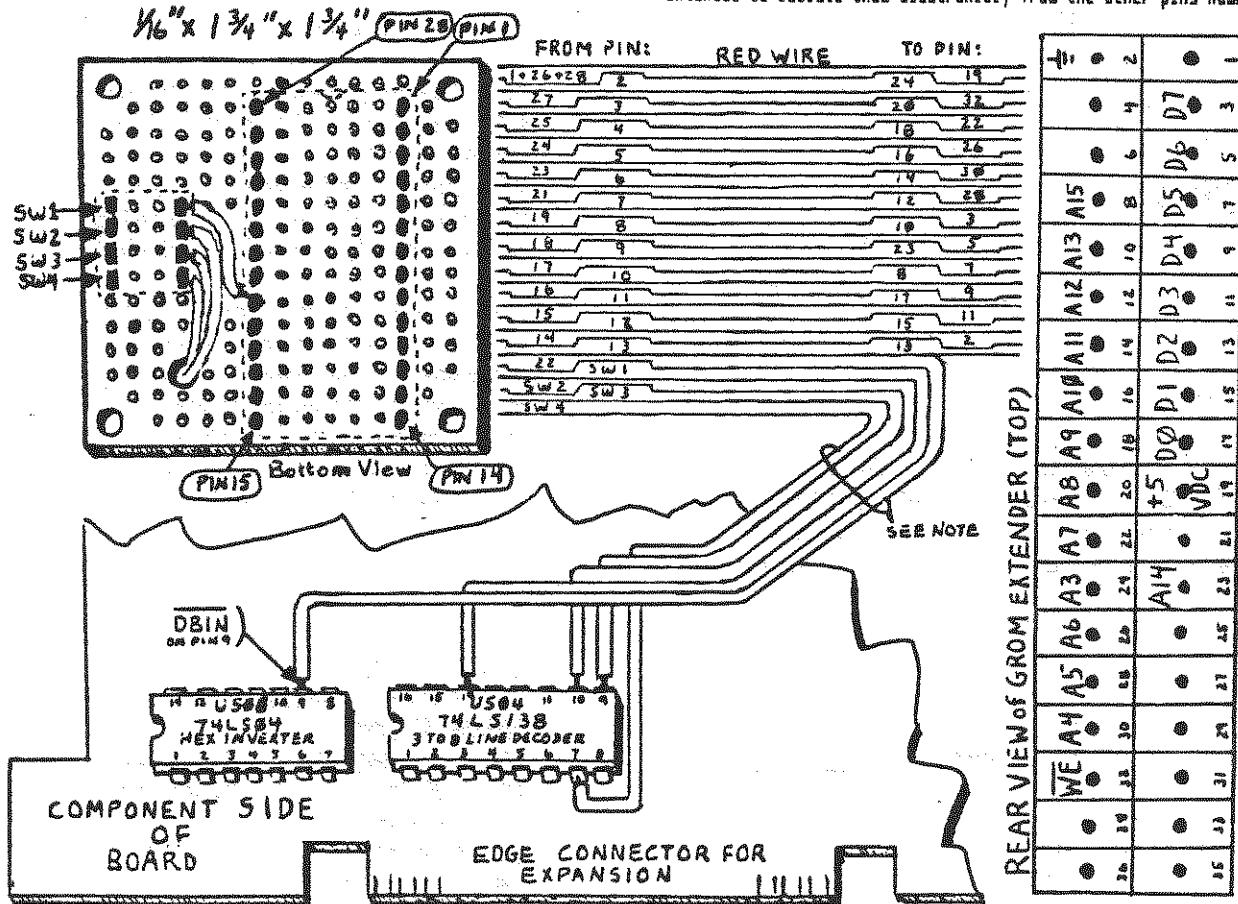

FIG. 2
First please take note of the location of parts by using the above two drawings. The major component in the expansion is the circuit card. The card's bottom view (shown in upper left FIG.2), has copper lands (small donut shaped eyelets) around each hole. This will provide for better soldering of wires, and components to the board. The circuit card actually is 1/2 of a board which comes from RADIO SHACK, to be used as either a half, or a whole. How convenient, two for the price of one (see parts list). You may use the placement of components, as I did or you may choose not to use the switch pack, in which case all of the board that is not directly under the chip socket, may be clipped away easily using small side cutters. You will see later that if this course is chosen, that you can even mount the assembly directly behind the GROM connector, making a very tidy and secure module.
The use of ribbon cable was my choice here, but any multi-strand wire with a gauge no smaller than say 26 could be used. The connector shown in FIG.2 extreme right side, is the rear view of the GROM connector, with the black dot seen in the center of each rectangle, representing the 1/8" long pin extending through the verticle connector card, and to which you will be soldering your completed assembly.
1) Place the console bottom up, with the keyboard toward your stomach. Remove the (7) Phillips head screws. If this is the black and silver console, you must now remove the ON/OFF switch knob, by simply pulling it toward you. Now lift the bottom cover up and set aside.
2) On the left, front side you will see a circuit card (approx. 4 1/4" x 4 1/4") which is the power supply, and can be removed by removing (2) Phillips head screws on it's right side. Lift the card noting: the AC (18vac) cable coming to it from the rear of the console, the DC cable (carrying DC voltages to the CPU board) and noting that there are basically two kinds of cables, one that connects via a (4) pin Molex connector directly to the power supply board, and the other that has a mid-line connector which is keyed for reassembly. Be sure that in the first case you squeeze the locking latch on the connector to remove the cable (so as not to damage the connector. Set the power supply aside.
3) Remove the (3) Philips head screws, (2) around the outer perimeter of the console board, and (1) to the rear of the board, but seen down in a recessed area of the board through a hole about an inch from the rear edge. DO NOT REMOVE any screws with nuts on the other side at this point! Now remove the (4) screws that hold the keyboard in place, 2 at either end. Lift the console board up carefully, until it is high enough to disconnect the cable to the keyboard, and do so. Now place the top cover with the keyboard still lying in it aside.
4) Turn over the shielded console board to expose the GROM connector. Lift the GROM Connector Assy. out of it's slot and examine it as you carefully note FIG.2. Before we forget, remove and discard the Snap-on connector cover with the felt wiper assy.. This is the device that causes most of those system freezes under extended Basic that have plagued you. Clean the inside of the connector with alcohol on a piece of clean cloth stretched on a piece of thick paper inserted into the connector.
NOTE: In FIG.2 the note reference is that you may find it wise to put the optional connector (parts in list), to make it easier to remove this module in case problems do occur for you. You will not have to remove the shields from the CPU board and unsolder the (5) wires. Repeated soldering and resoldering could cause chip failure.
6) After the above assembly is constructed and the 24 wires are attached to the GROM connector (soldered to the pins shown as black dots in FIG.2), and the (5) wires that will go to the CPU board have been prepared, now we must expose the CPU board for what it really is. Get the Shielded CPU, and remove the (3) philips headed screws with nuts on the other end. take careful note which direction these screws go through the board, mark them if you have to. Now, lift off the shield that had the GROM connector go through it. Locate the edge connector where the expansion devices connect to the TI. You will see these two chips (see FIG.2), that must have the lines for chip select, and DBIN connected to them. Put a little solder on the wire end and carefully heat the wire (with solder already on it) as you press the wire against the leg of the chip. Repeat for all (5) wires.
NOTE: In FIG.2 the note in lower left of CPU card, draws you attention to an ideal area to notch the upper shield to allow the cable an exit to the outside of the shield. The notch need only be slightly wider than the (5) wires and 1/16" high. Carefully wrap electrical tape around the wire where it will pass through this opening.